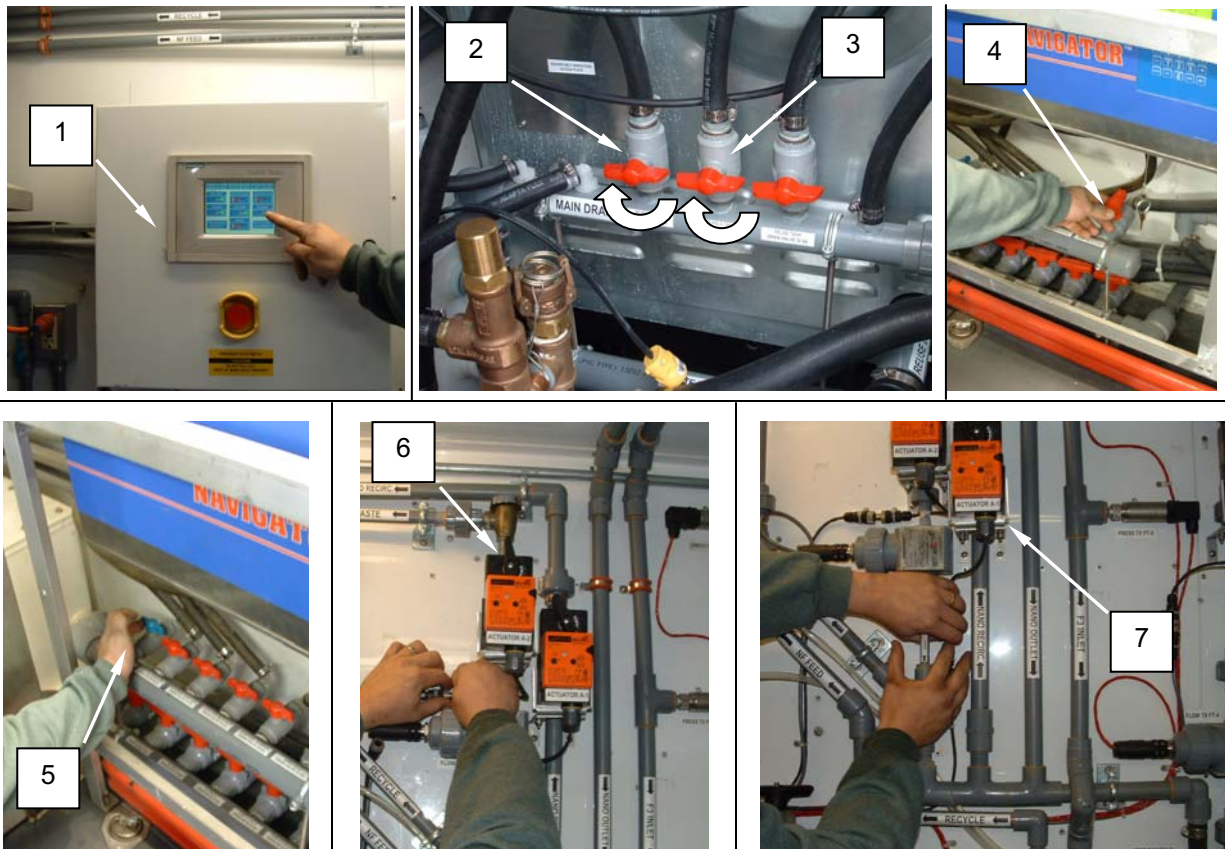

Figure 2. Water Treatment System Flush.
1. Switch Pump P-4 to OFF at the PLC (Figure 2, Item 1). Turn Pump P-3 ON at the PLC (Figure 2, Item 1).
2. Open the WTS Hold Tank drain V-33 (Figure 2, Item 2) and Nano Feed Tank Drain V-32 (Figure 2, Item 3) and allow at least 15 minutes for tanks to drain. Ensure no water is present in the sight glass. Close V-33 and V-32.
3. Open the Nanofilter split drain valve V-25 (Figure 2, Item 4).
4. Close the Automatic Soap Dispenser overflow valve V-61 (Figure 2, Item 5).
5. Disconnect Actuators A-3 (Figure 2, Item 6) and A-4 (Figure 2, Item 7).